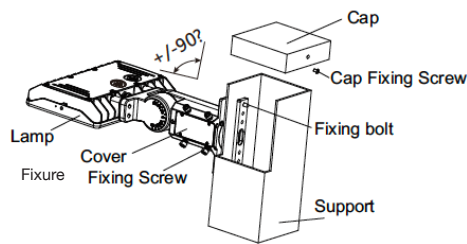

Fig. 30
2. Connect MM bracket to pole with supplied bolt. Connect power cable with the pole cable and make wire connections within access cover or in pole. Close access cover and tighten screws. **Note:** Adjustable angle is 0-90° (Fig. 30).